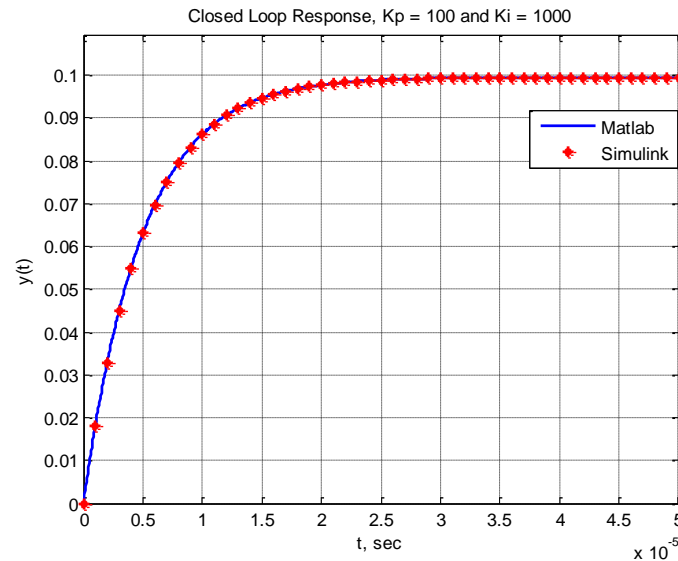

Figure 8: MATLAB and Simulink Results for closed loop control
different line types and colors, grid, the axes labeled and a descriptive title. See Figure 8 for an example of the system output.
- Now, generate the MATLAB and Simulink results for each of the controllers in PARTS II, III and IV. Make sure each plot has a descriptive title with the controller gains similar to Figure 8, axes labeled, grid, and distinct markers for MATLAB and Simulink results. You must include all six graphs in your lab memo submission.